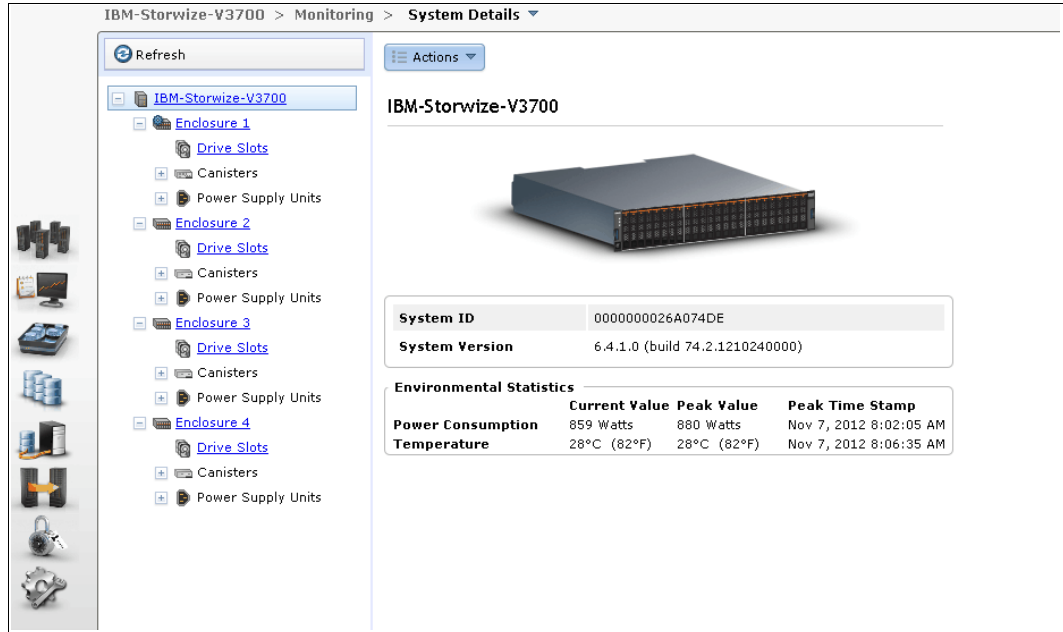

Figure 2-20 System Details
1. In the Monitoring tab, view the system details as shown in Figure 2-20.